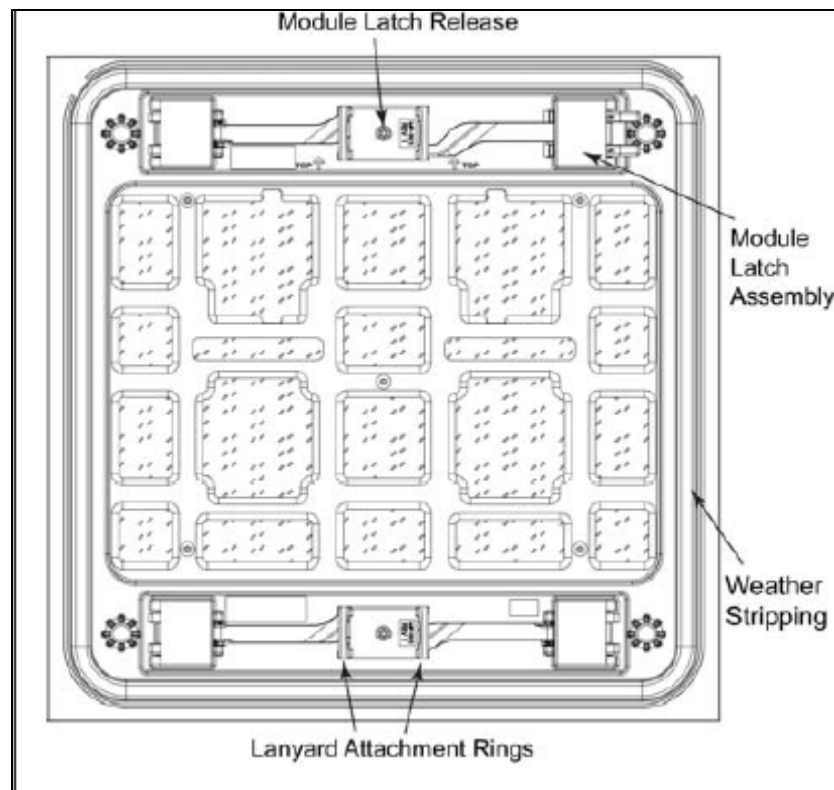

Figure 10: Module Rear
5. Disengage the module upper and lower latch release with a $1/8$ " Allen wrench and turning the release approximately $1/2$ turn clockwise. Refer to **Figure 10**.